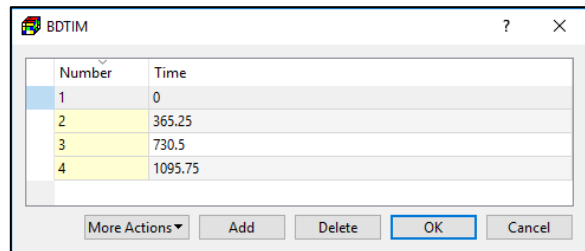

Figure 47. The BDTIM dialog box
- **Times of Specified Values (BDTIM):** Click the Edit button to open the BDTIM dialog box (Figure 47) where you can edit an array of simulation times at which the flow or head values can be defined. The array of simulation times applies to the entire package. The features of the BDTIM dialog box are as follows: